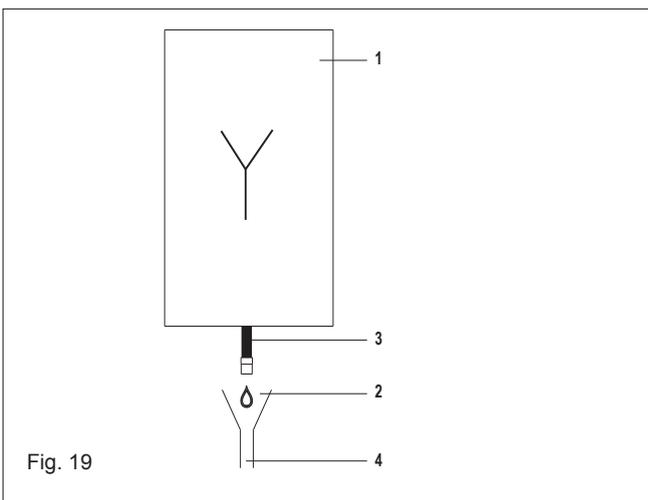

Fig. 19
The disconnection must be such as to ensure an atmospheric connection between the inside of the condensation exhaust system pipe and the environment in order to avoid that the downstream exhaust pipe of the product can take on positive or negative pressure with respect to the environment itself. "Fig. 19": example of a connection between the condensation exhaust pipe (3) and the exhaust system (4).